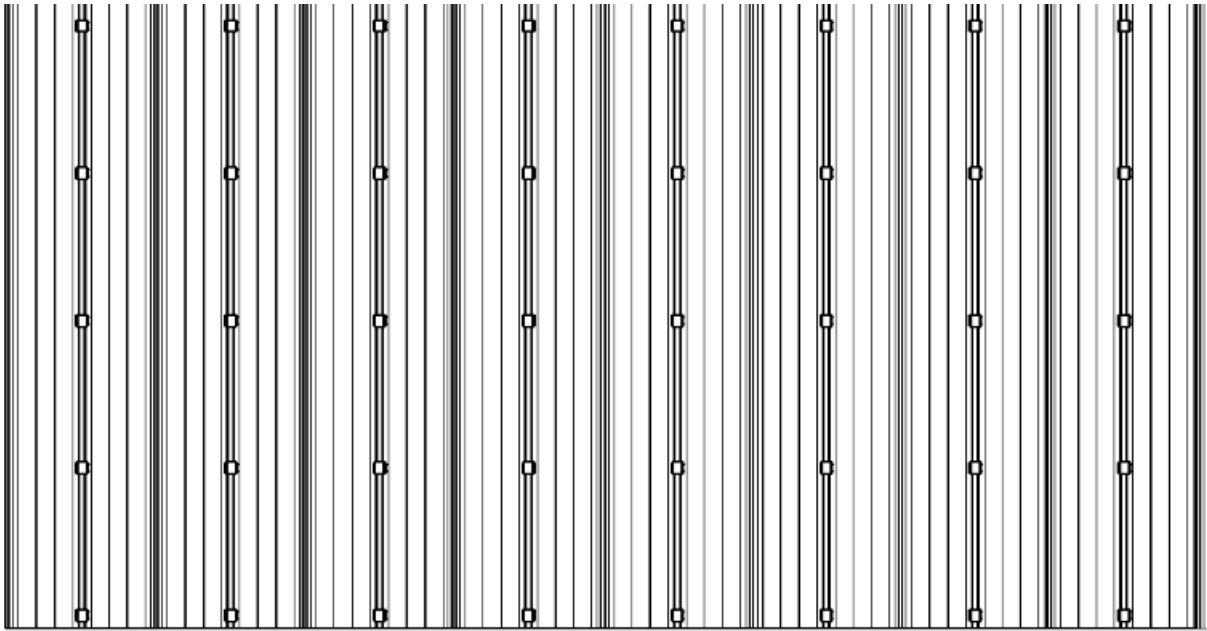
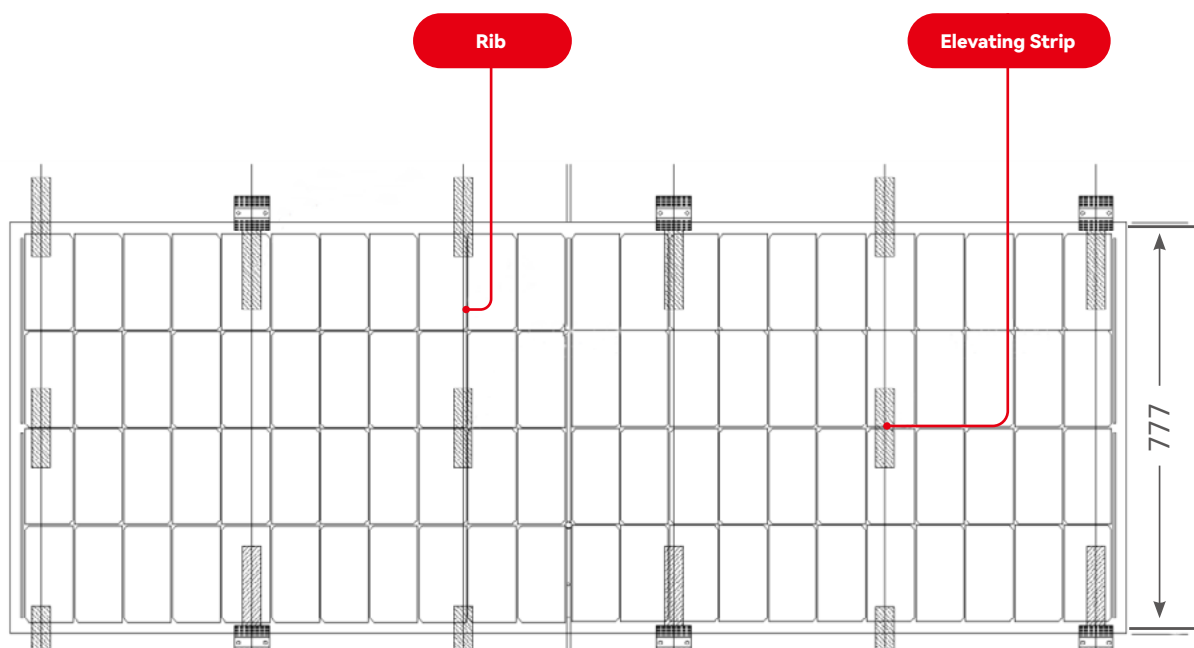

FIGURE 27
FIGURE 28
- ③ Use elevating strips on the round rib (Figure 27), one end of the strip is placed close to the side of the clamp, and in the non-clamp position the strip is placed in the middle of the 2 products. The position of each strip in the middle of the product is shown in the diagram (Figure 28)
- ④ Installation of the remaining products in the same form as the installation of the angle-chip type colour steel tile roofing;